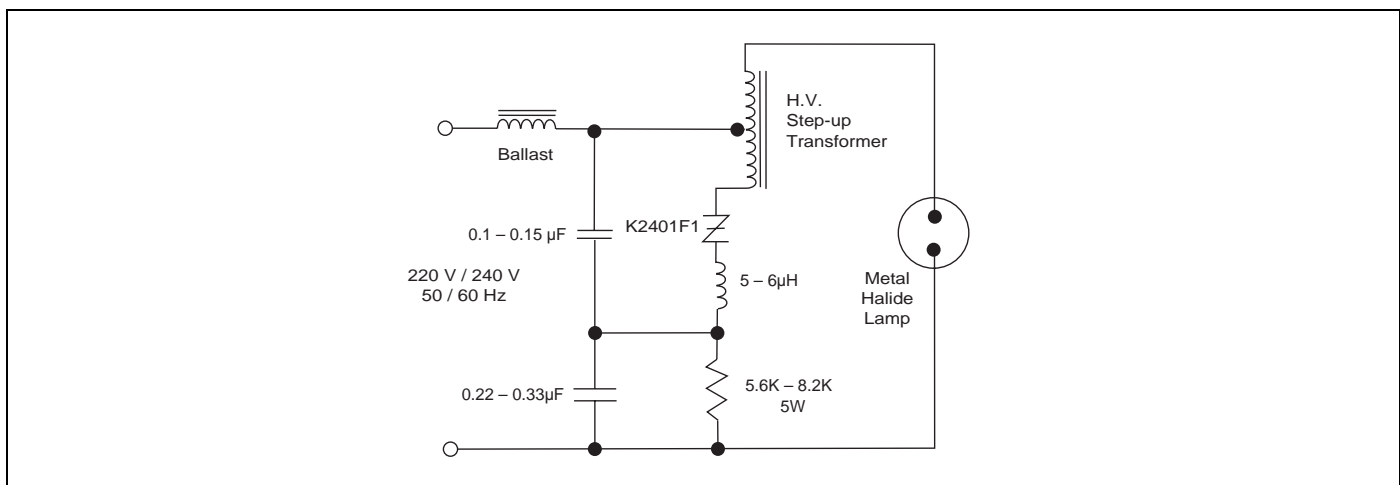

Figure E9.17 Typical Metal Halide Ignitor Circuit
- The K2401F1 sidac is designed to ensure good commutation at higher switching frequencies, as required in ignitor circuits for high intensity discharge (HID) lighting. A typical circuit for a metal halide lamp ignitor is shown in Figure E9.17. With proper component selection this circuit will produce three pulses for ignition of Osram lamp types such as HQI-T70W, HQI-T150W, and HQI-T250W which require a minimum of three pulses at 4 kV magnitude and >1 μs duration each at a minimum repetition rate of 3.3 kHz.